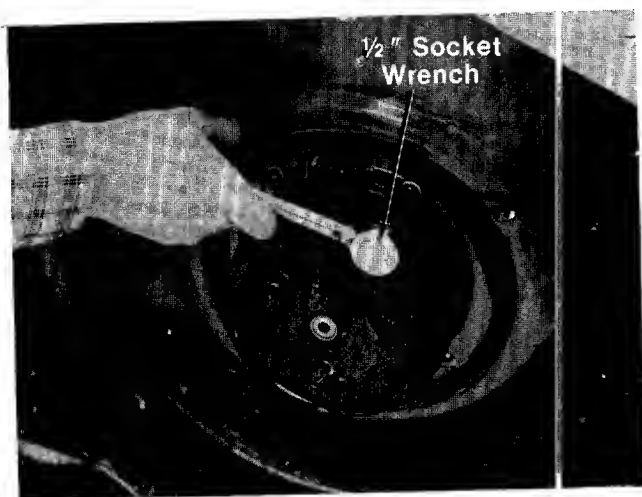

FIGURE 23.
11. Support the engine with one hand. Remove the three self-tapping screws which secure the deck and blade brake/clutch to the engine. A $\frac{1}{2}$ " socket wrench is required. See figure 23.